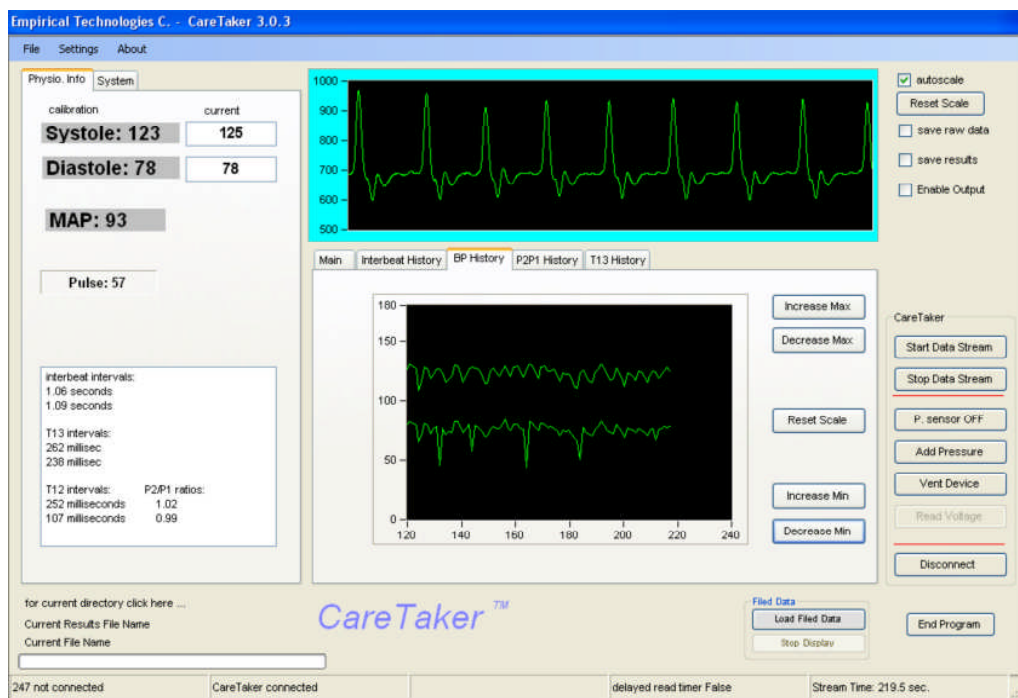

Figure 15: CareTaker GUI in operation. Notice display of BP History tab.
- Once the progress bar vanishes the system will continue to display blood pressure values and graph them (Figure 15). In addition the Pressure Control will enable to maintain the coupling pressure above 40 mmHg by changing from green to red.